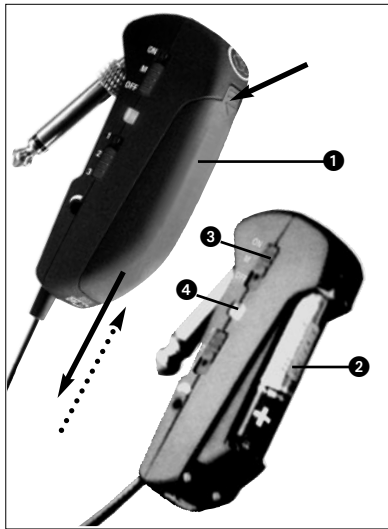

Fig. 2: Inserting a battery.
3.1 Inserting/Replacing and Testing Batteries (refer to fig. 2 on page 14)
4. Insert the supplied or new battery (2) into the battery compartment as shown in fig. 2.
5. Set the ON/MUTE/OFF switch (3) to ON.